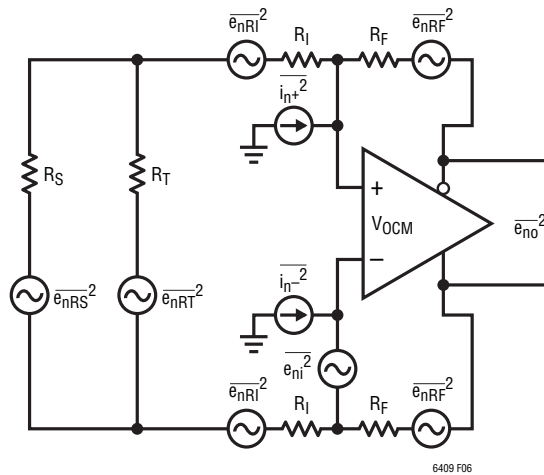

Figure 6. A More General Noise Model Including Source and Termination Resistors
To calculate noise figure (NF), a source resistance and the noise it generates should also come into consideration. Figure 6 shows a noise model for the amplifier which includes the source resistance (R_S). To generalize the